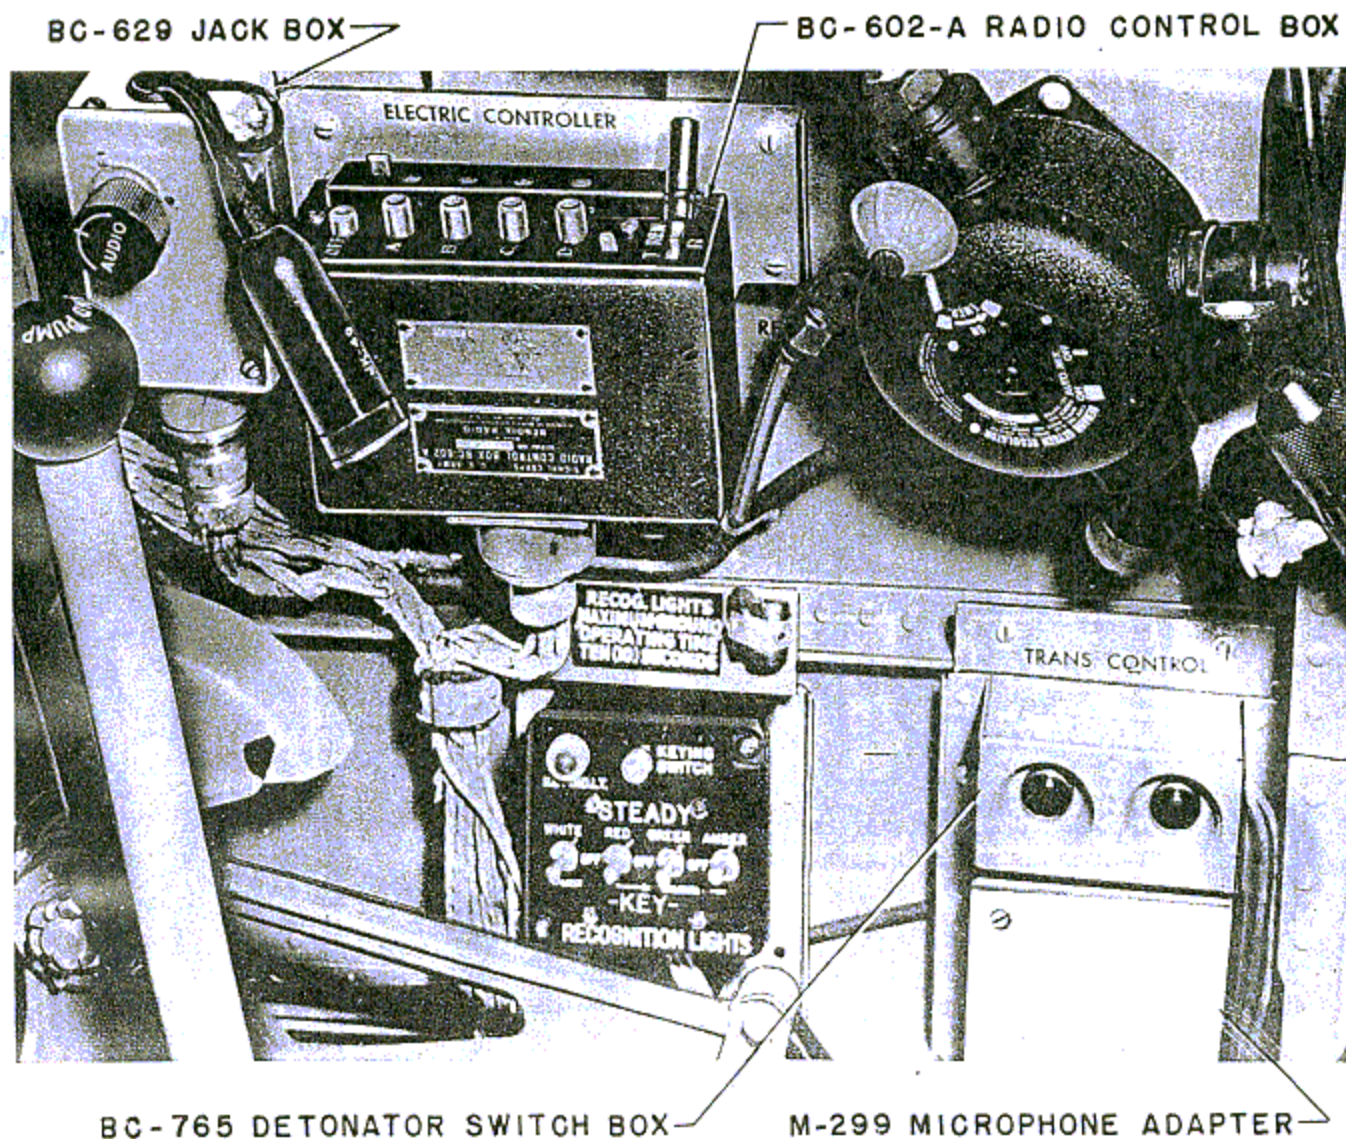

Figure 274—SCR-522 Radio Controls
4. RADIO CONTROL BOX.—Radio control box BC-602-A, is mounted on a bracket on the right side of the cockpit aft of station 3 bulkhead. It provides complete remote control of communications with five red push buttons by which channels are selected and the power turned on and off. (See figure 274.)
5. JACK BOX.—Jack box BC-629, is mounted on a plate aft of station 3 bulkhead just forward of the radio control box. It provides for connections between the transmitter-receiver unit and the pilot's microphone and headset. It is equipped with an audio volume control to regulate the volume level of the signal received in the headset. (See figure 274.)
6. MICROPHONE ADAPTER.—Microphone adapter M-299, is mounted forward of bulkhead station 4 on a bracket with the detonator. It is used in conjunction with microphone T-30-P. (See figure 274.)
(d) DETONATOR.—Detonator switch box BC-706-A, mounted on a shelf at station 11 just aft of the warning indicator, includes a crash switch which destroys the receiver in the event of a crash landing. Switch box, BC-765, mounted on the right side of the cockpit at station 4, includes two detonator switch buttons which are depressed simultaneously to destroy the receiver. (See figure 274.)